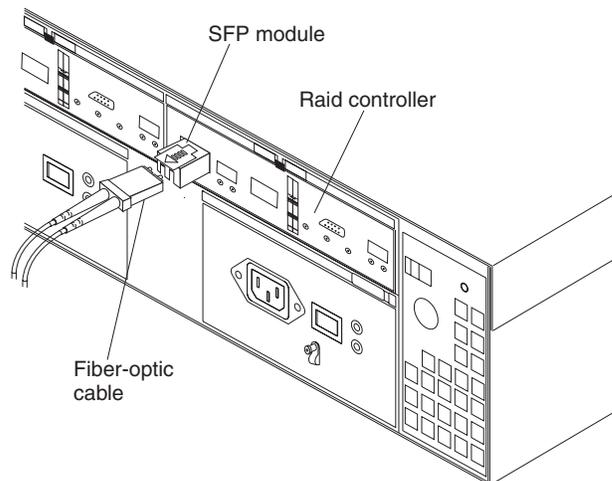

Figure 46. Location of SFPs and fiber-optic cables
4. From both RAID controllers to be upgraded, remove the fibre-channel cables from the SFPs. The location of these components is shown in Figure 46.